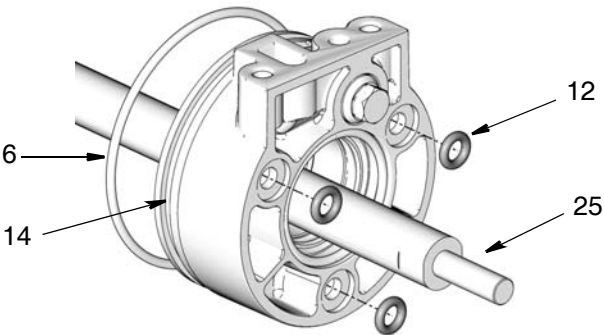

Fig. 30
6. Install displacement rod (25) through flange assembly (22) (Fig. 30).
7. Remove and discard the 3 small o-rings (12) and o-ring (6) in the bottom cover (14) (Fig. 30). Grease